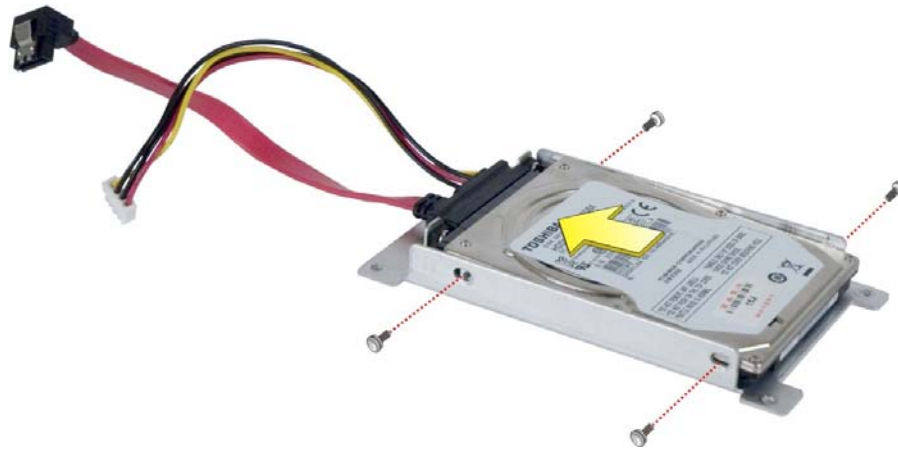

Figure 3-6: HDD Retention Screws
Step 4: Secure the hard drive to the bracket. Secure the hard drive to the bracket with four retention screws (Figure 3-6).